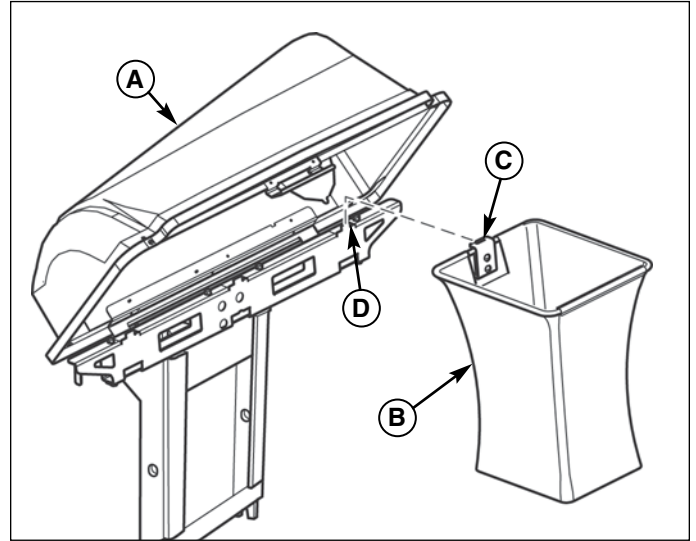

Figure 7. Install Collector Bags
1. Raise the cover (A, Figure 7).